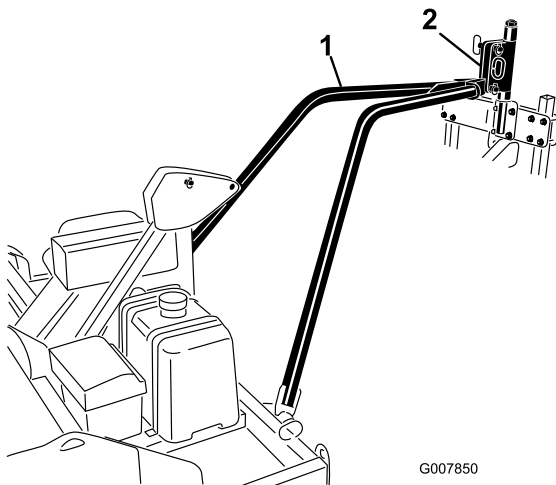

Figure 15
3. Remove the tie down or rope and lower the tow arm hitch plate into the aerator hitch pivot (Figure 15).